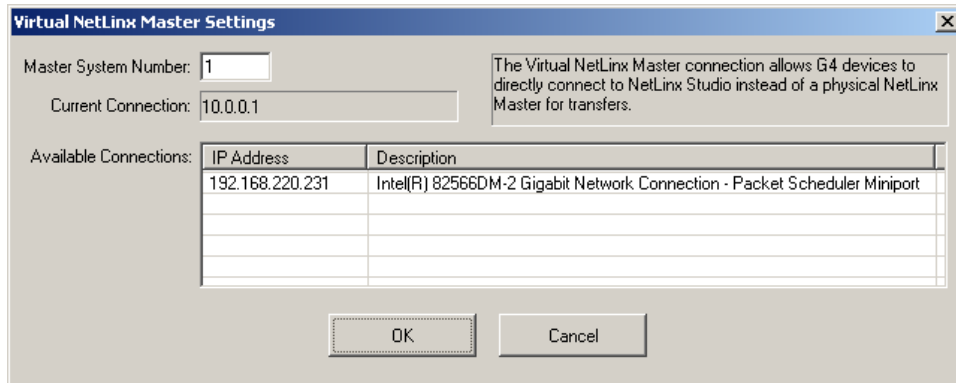

FIG. 44 NetLinx Studio - Virtual NetLinx Master Settings dialog
- Click the **Edit Settings** button on the *Communications Settings* dialog to open the *Virtual NetLinx Master Settings* dialog (FIG. 44).